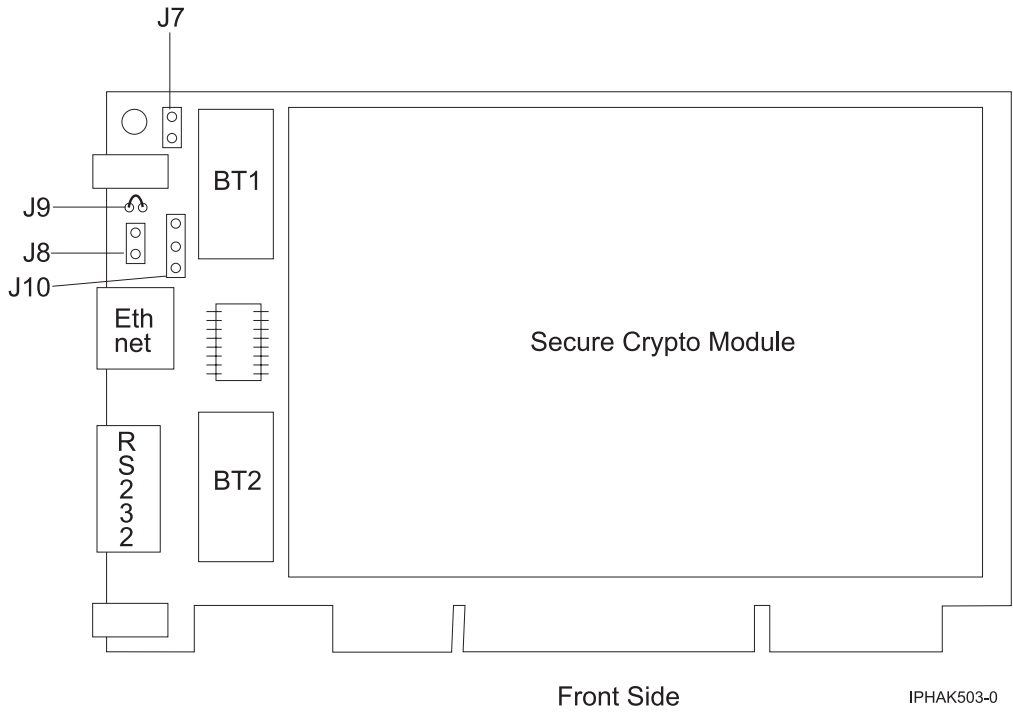

Figure 8. Front side of the adapter
6. Insert one of the new batteries into the battery tray provided with the kit. Align the + on the battery with the + on the battery tray (the end with the red wire). Connect the tray wires to the J10 connector located near the RS-232 serial port, as shown in Figure 8 on page 42. The connector is polarized to ensure a correct connection.